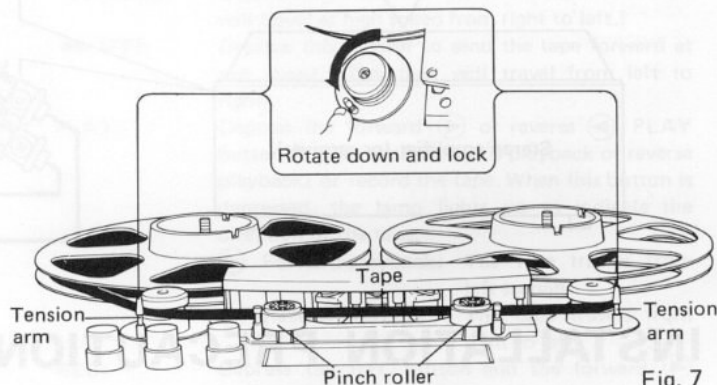

Fig. 7
1. As in Fig. 7, rotate down the left and right tension arms in the direction of the arrows and lock.